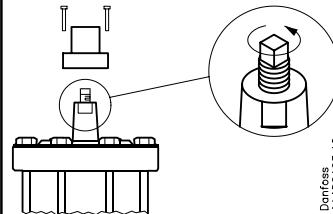

Fig. 8
In case of power loss the GPS valve will close (NC). The valves without forced closing device can be opened by hand, if the cap is removed and the spindle is turned anti-clockwise. To close the valve, turn the spindle clockwise. The spindle must be screwed to the lowest possible position during normal operation (fig. 8).
Ved strømsvigt lukker GPS ventilen (NC). Ventilerne uden tvangslukningsmekanisme kan åbnes ved håndkraft, hvis hætten fjernes, og spindlen drejes mod uret. Ventilen lukkes ved at dreje spindlen med uret. Spindlen skal være skruet i lavest mulige position under normal drift (fig. 8).